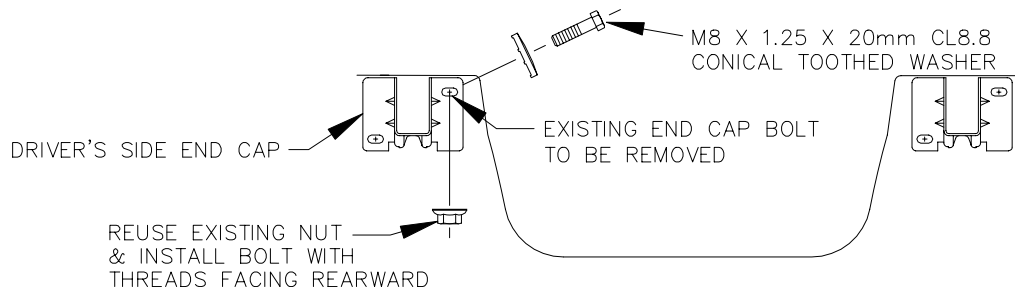

FIGURE 5.
- REMOVE THE TWO (2) FASTENERS THAT ATTACH THE PASSENGER'S SIDE BUMPER BRACKET TO THE FRAME RAIL END CAP. RETURN FASTENERS TO VEHICLE OWNER.
- REMOVE THE EXISTING DRIVER'S SIDE INBOARD FRAMERAIL END CAP BOLT AND REPLACE IT WITH FASTENERS AS SHOWN IN FIG 5 (TO PROVIDE ACCESS FOR CARRIAGE BOLTS INSTALLED IN STEP 12).